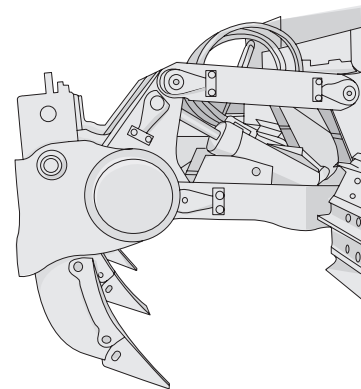

Figure 4-54
2. The replacement of the ripper tooth tip and the guard plate after being worn (Figure 4-54)